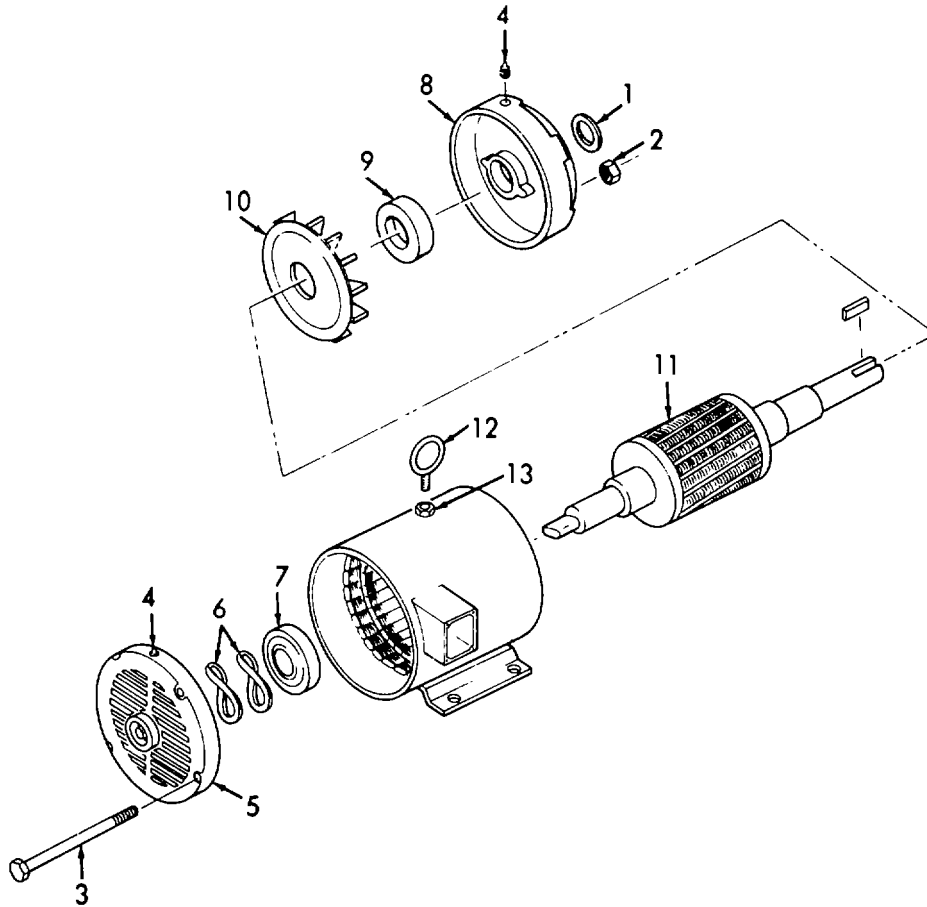

Figure 4-9. Electric Motor, Assembly.
e. Assembly. (Refer to Figure 4-9).